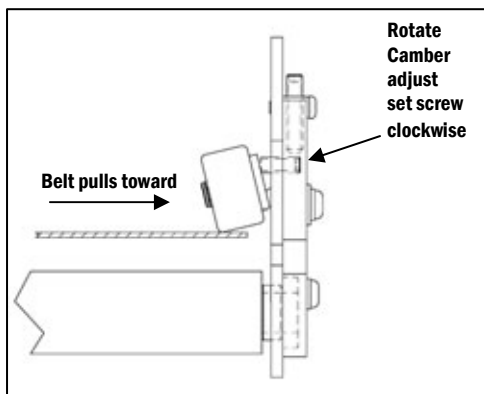

Figure 5
d. On the side of the conveyor opposite the previous adjustments, turn camber adjust set screw clockwise (threading in). Increasing the Z-Track camber adjustment slightly on that side will pull the belt toward the idler (**Figure 5**). Wait for two belt revolutions around the conveyor to see if the adjustment corrects the issue. If not, move to the next step, as excessive adjustments in this area can damage the belt.